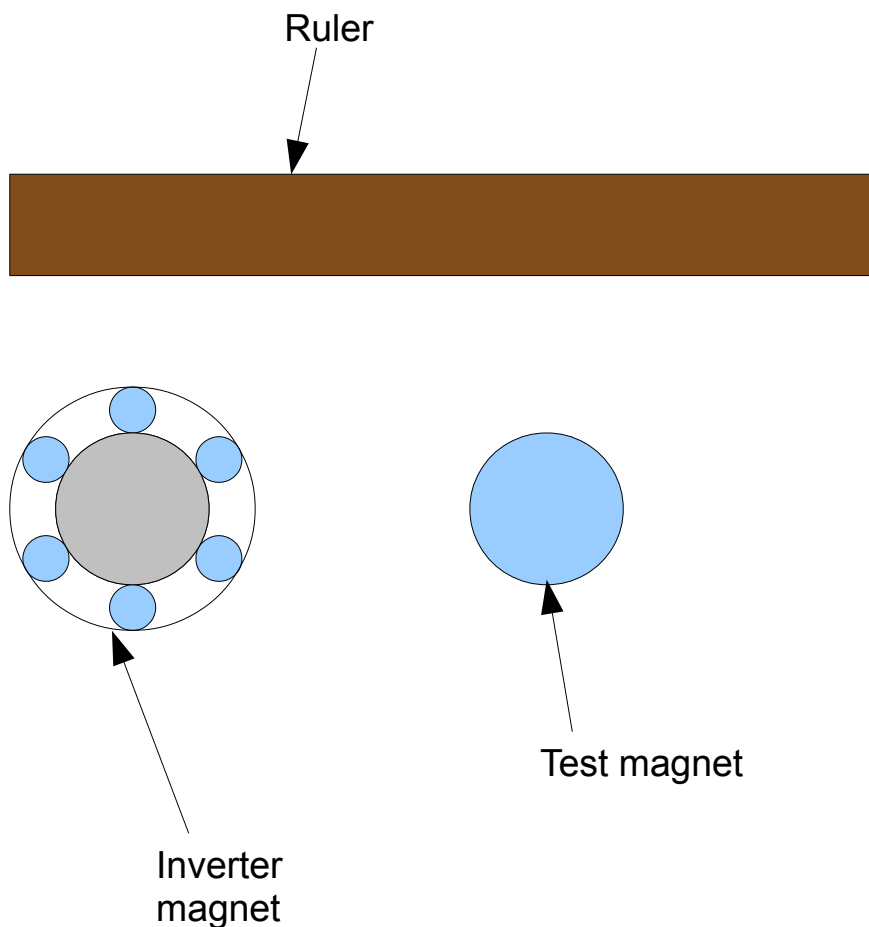

Figure 2: The setup of experiment 2.
Step 2: Using duct tape, attach the ruler alongside the inverter magnet with the peripheral magnets aligned relative to the ruler as shown in figure 2.
Step 4: Keeping hold of the test magnet, position it as shown in figure 2, about 2cm away from the inverter magnet (use the ruler to judge the distance). Which way is the magnet being pulled?
Step 2: Remove the central magnet from the inverter magnet and set up the inverter magnet and ruler as described in steps 1-3 of experiment 2 (shown in figure 2).
Step 10: Add the peripheral magnets to the inverter magnet so that device is once again complete and set it up alongside the ruler as shown in figure 2. Place the test magnet at the equilibrium position you found in experiment 2.